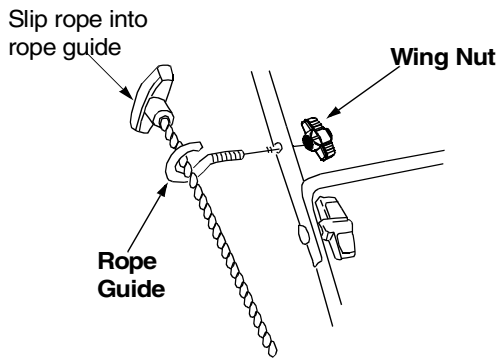

Figure 6
The rope guide is already attached to the right side of the lower handle of your mower. See Figure 6 .
- With the spark plug wire disconnected and grounded, hold the blade control handle against the upper handle, and pull the starter rope up to the rope guide. See Figure 6.